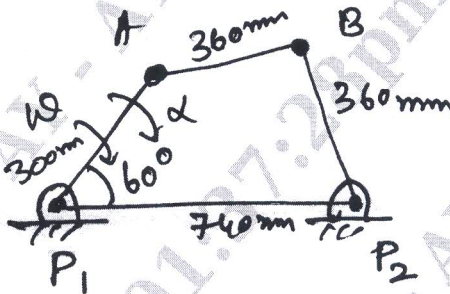

Fig Q2
- 2 The dimensions and configuration of the four bar mechanism shown in Fig Q2. The crank P_1A has an angular velocity of 10 rad/sec and angular acceleration of 30 rad/sec², both clockwise. Determine the angular velocities and angular acceleration of P_2B and AB and the velocity and acceleration of the joint 'B'.